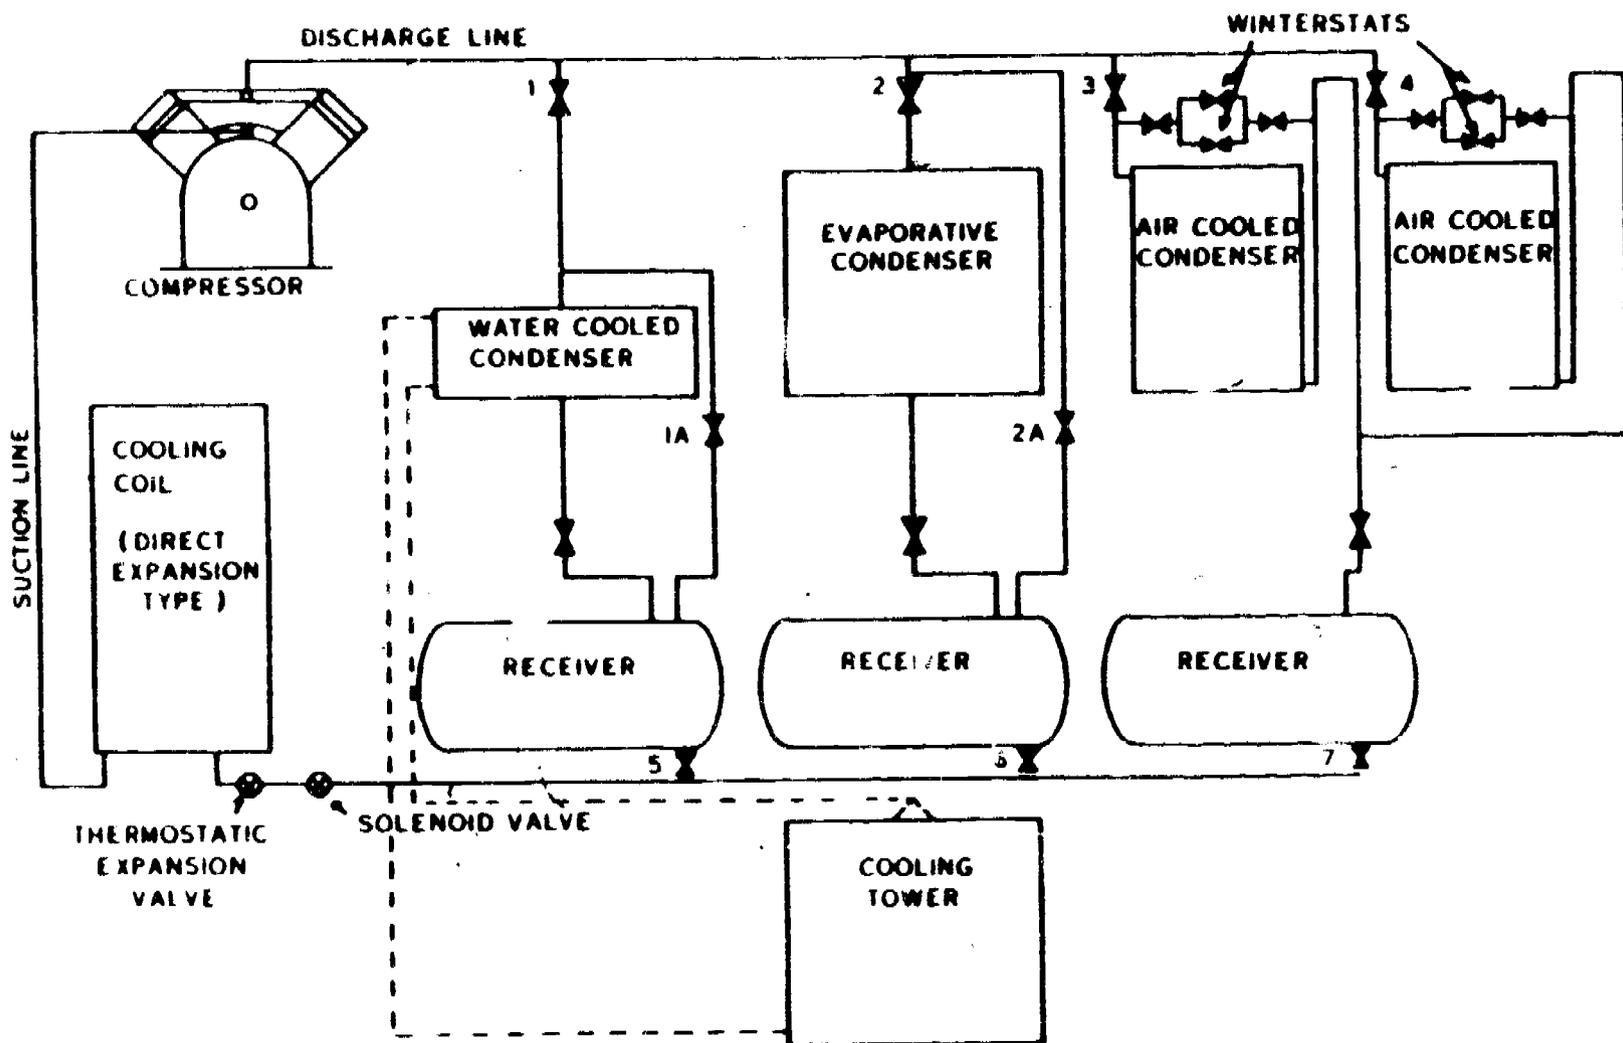

Figure 10. Refrigerant Piping Diagram
**NOTE:** Refer to the refrigerant piping diagram when checking valve positions (figure 10).
- (1) Close all condenser inlet valves except on the condenser being used.
- (2) Close all receiver inlet valves except on the condensing system being used.
- (3) Close all receiver outlet valves except on the system being used.